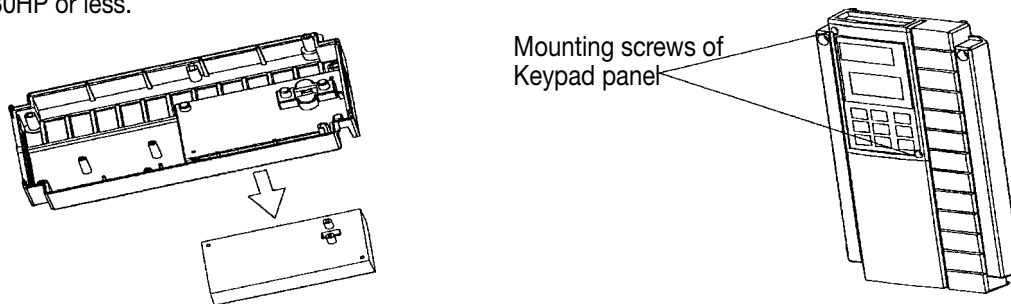

Fig.1-3-3 Removing the Keypad Panel (for drives of 30 HP or less)
After removing the cover as explained in (1), loosen the keypad panel mounting screws and remove as shown in Figure 1.3.3 for drives 30HP or less.